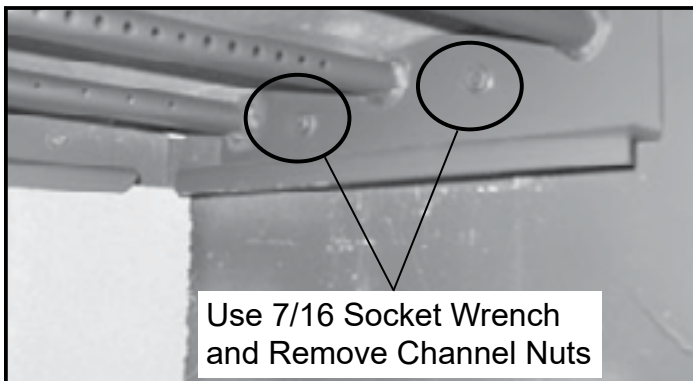

Figure 5.11
3. Locate the 2 channel nuts and two bolts inside of chamber and remove using a 7/16 socket wrench for the nuts and a 3/8 socket wrench for the bolts (**Figure 5.11**).